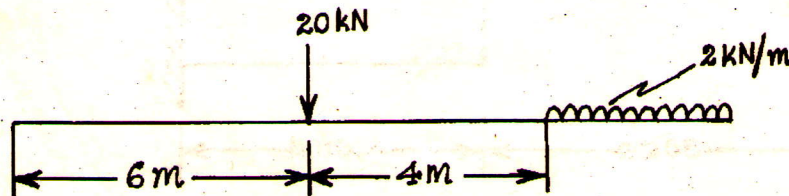

FIG. 4.
- IV. (a) A beam ABC is loaded as shown in Fig. 4 if $E = 2 \times 10^5 \text{ N/mm}^2$ and $I = 9 \times 10^{-5} \text{ m}^4$ determine the maximum deflection and the deflection at the free end. Use Mecauly's method.